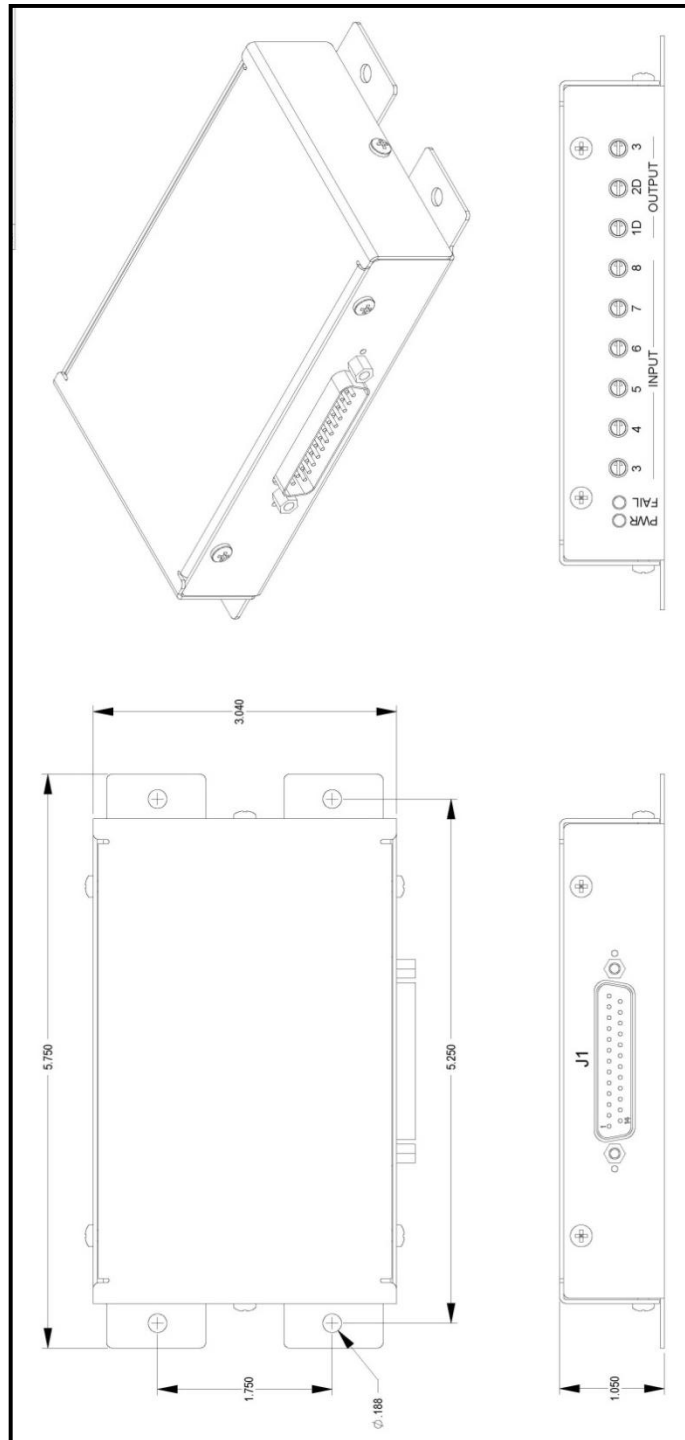

Figure 20: G13120 Audio Mixer
- b. The exact mounting location is left to the installer's discretion provided that the installation of the Audio Mixer does not interfere with other equipment installed. Refer to Figure 20 for laying out mounting holes.
- c. Mount the Audio Mixer using (4) #8-32 screws, washers and locknuts or nutplates. When mounting into composite structure, #8-32 potted inserts should be used.